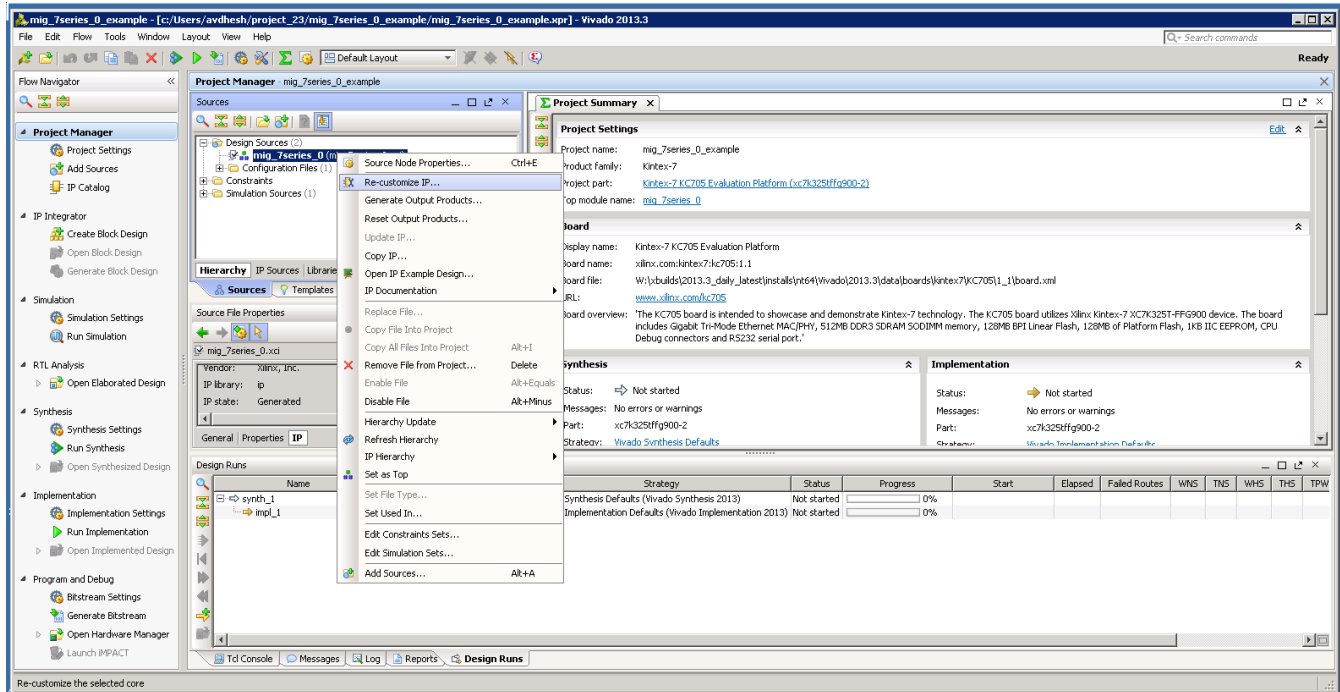

Figure 4-36: Recustomize IP
12. Recustomization of the MIG IP core can be done by using the **Recustomize IP** option. It is not recommended to recustomize the IP in the example\_design project. The correct solution is to close the example\_design project, go back to original project and customize there. Right-click the XCI file and click **Recustomize IP** (Figure 4-36) to open the MIG GUI and regenerate the design with the preferred options.